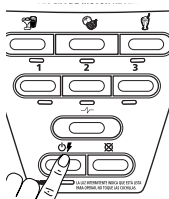

Fig. 21
1. Press the power button (Fig. 21) to turn the product on. The power light will blink, meaning the product is active and ready to use.
3. Press the power button (Fig. 21) to turn the product off.